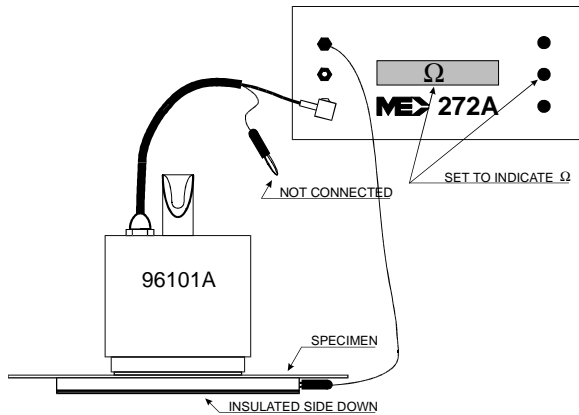

Figure 5
Most materials commonly being tested in today's world of ESD awareness are intended not to be electrically insulative. For specimens that have negligible surface leakage, an unguarded measurement based on the actual area of the (1.2" dia.) center electrode greatly simplifies the calculations. For material samples less than 0.060" thick, the errors introduced into an unguarded measurement are usually small enough to be negligible. Connections for unguarded measurements are given in Figure 5. Factors for converting meter readings (in Ω) directly to volume resistivity (unit Ω•cm) are presented in Table 1.
1. Arrange test setup as in Figure 5.